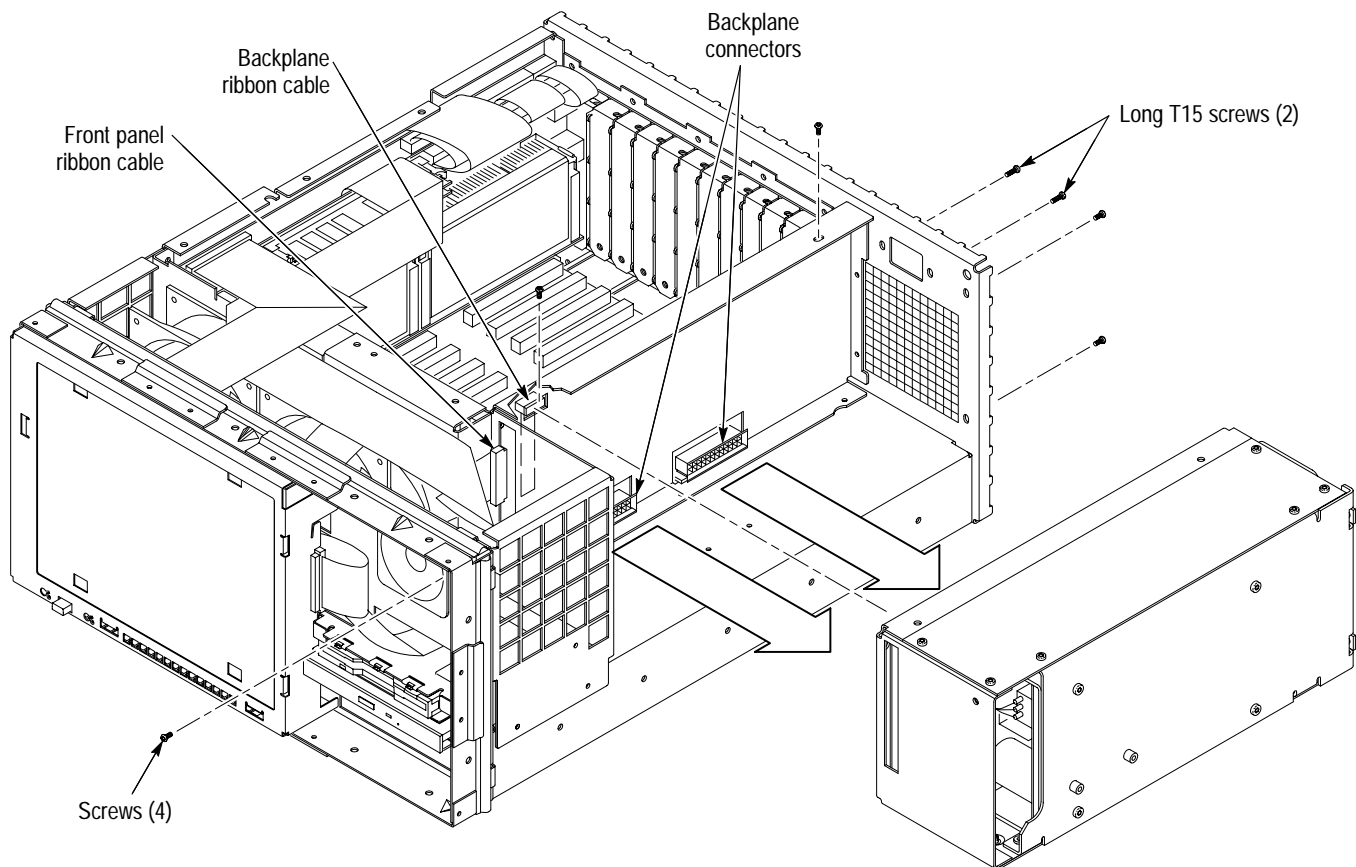

Figure 6–22: Power supply long and short screw locations
1. Align the power supply connectors with backplane connectors as shown in Figure 6–22.